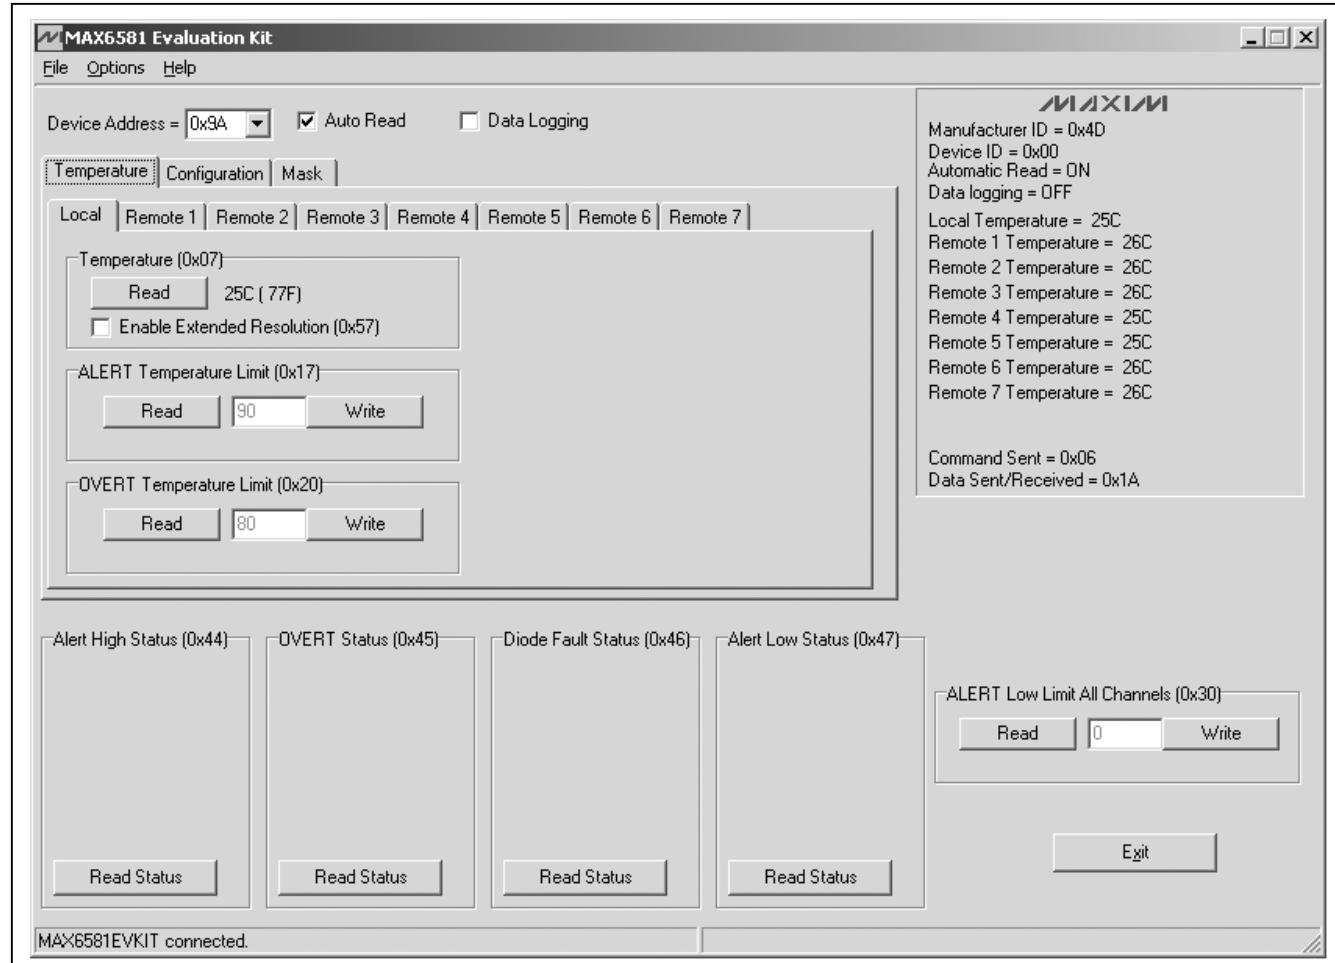

Figure 1. MAX6581 EV Kit Software Main Window (Temperature Tab)
- 6) Start the EV kit software by opening its icon in the **Start | Programs** menu. The EV kit software main window appears, as shown in Figure 1. Observe as the program automatically detects the address of the device and starts the main program.
The remote-diode-measurement channels can provide 11 bits of data (1 LSB = +0.125°C). The 8 most significant bits (MSBs) can be read from the local temperature and remote temperature registers. The remaining 3 bits for remote can be read from the extended temperature register. Extended resolution is enabled by checking the **Enable Extended Resolution (0x57)** checkbox within the **Temperature** tab sheet (Figure 1).
All temperature channels have programmable alert (**ALERT**) and overtemperature (**OVERT**) thresholds. Both alert and overtemperature limits can be set in the **ALERT Temperature Limit (0x17)** and **OVERT Temperature Limit (0x20)** group boxes within the **Temperature** tab sheet (Figure 1).